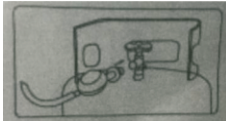

Fig1
1. Confirm that the angle valve of the gas cylinder rotates clockwise to the fully closed position, and put the pressure reducing valve (as shown in Figure 1) into the angle valve of the gas cylinder.